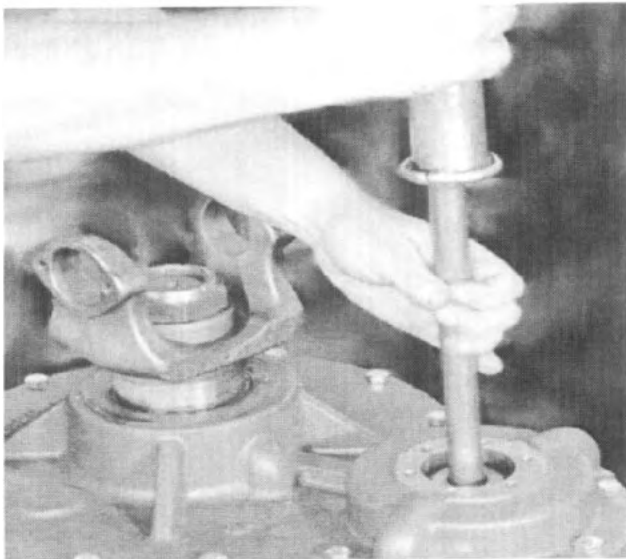

Fig. 68
12. Gently tap the end of the intermediate shaft to properly seat it in the housing. See Fig. 68.